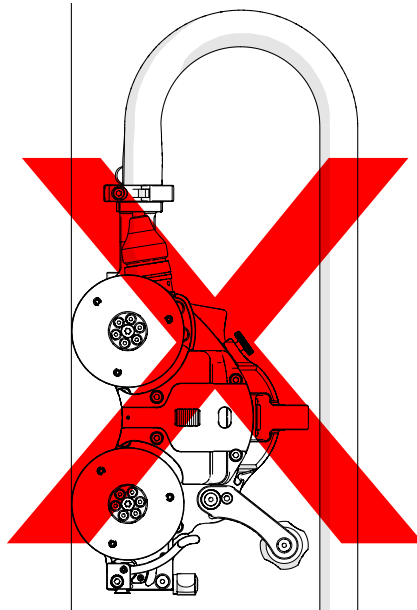

Fig. 73 - Incorrect umbilical use
WARNING! FALLING OBJECT HAZARD. or operating at heights greater than 2 m (6 ft), ensure the umbilical strain relief never points upwards as shown in (Fig. 73). The crawler could fall. **SEVERE INJURY** or **DEATH** could result.
3. Ensure the umbilical strain relief never points downwards during operation (Fig. 73).